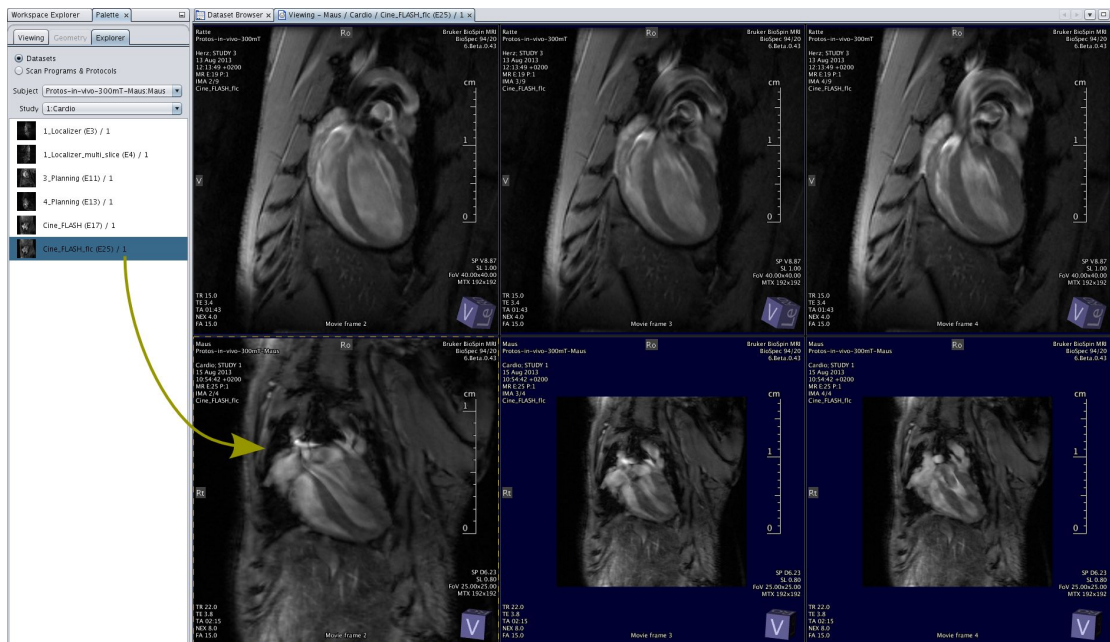

Figure 1.108: Drag and Drop an Image Series To a Viewport
- Drag and drop the desired image series into a viewport of the Viewing Card (see [Figure 1.108 \[▶ 133\]](#)).
Images from different datasets usually have different scaling, contrast and slice orientation, etc. For example, in Fig. [Figure 1.108 \[▶ 133\]](#), the upper row shows images acquired in a rat, the lower row shows images acquired in a mouse. After dropping the mouse image, its scaling is set such that viewport 4 is filled, and the rat and the mouse appear to have similar size. Use viewport state copy (see Chapter [Copying a Viewport State \[▶ 139\]](#)) to ensure that scaling and image Lookup Table are equal, as demonstrated in viewports 5 and 6 of the figure.